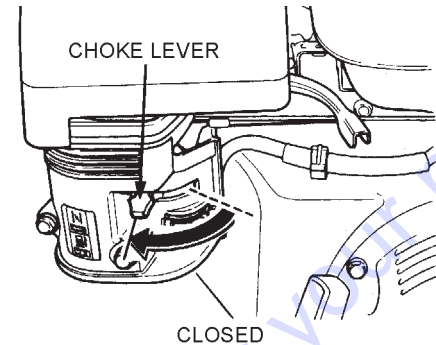

Figure 9. Engine Choke Lever (Closed)
3. Place the choke lever (Figure 9) in the “CLOSED” position if starting a cold engine.